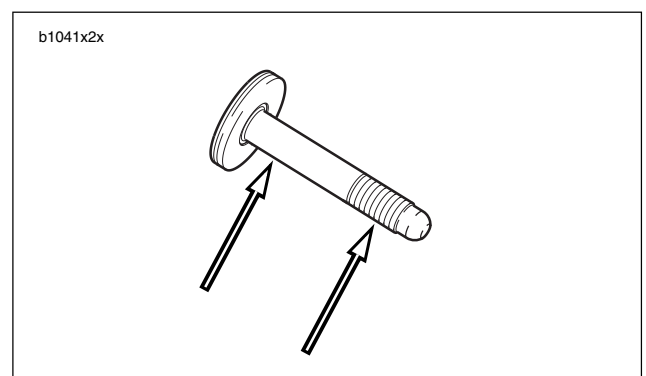

Figure 2-87. Lubrication Points on Front Isolator Bolt
8. See Figure 2-87. Lubricate front isolator bolt with **ANTI-SEIZE** and loosely install.